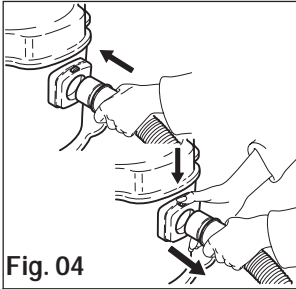

Fig. 04
**FLEXIBLE HOSE GROUP** (fig. 04) - Insert the flexible tube into the suction tube connector or into the blowing air outlet connector, according to the use.